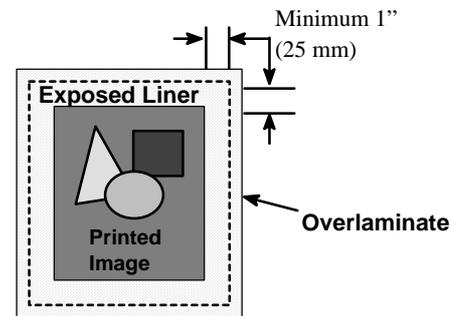

Figure 3. Apply Overlamine
3. Laminate the graphic as usual (see page 5), making sure that at least one inch of the bare liner is covered by the laminate. See Figure 3.